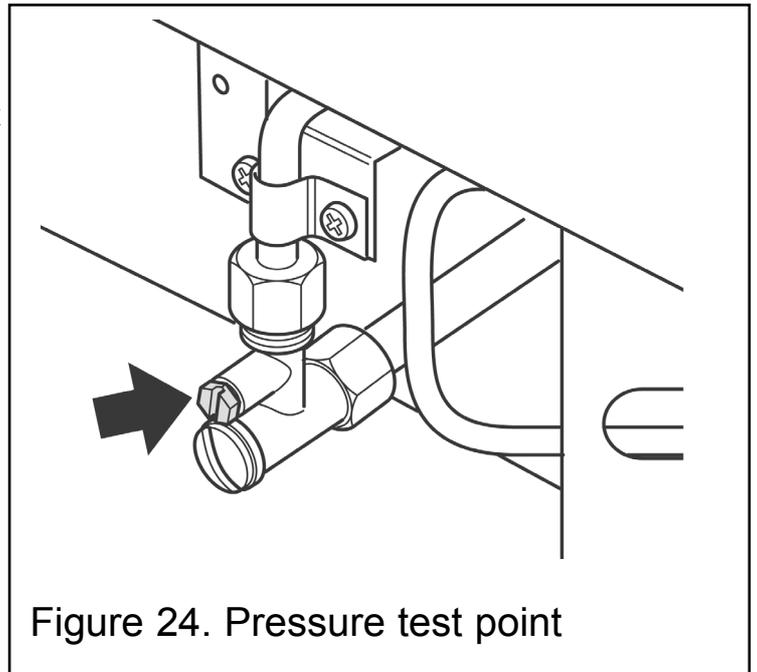

Figure 24. Pressure test point
1. Check the inlet pressure by fitting a pressure gauge at the test point. The test point is on the inlet 'T' connector. See figure 24. Check the pressure with the appliance alight and set at maximum output.